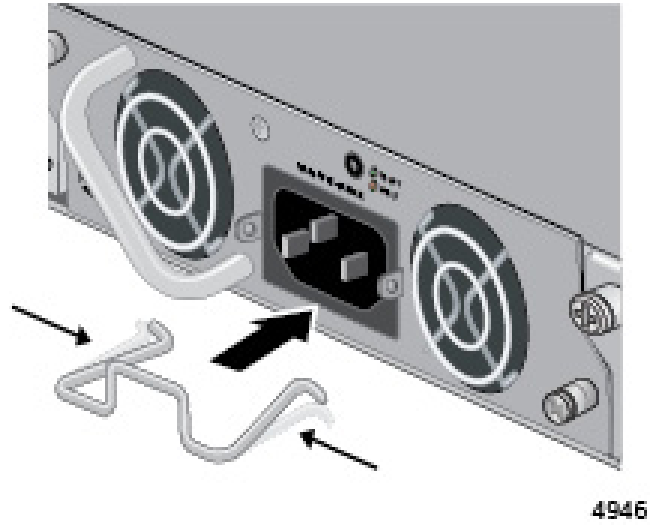

Figure 11. Installing the Power Cord Retaining Clip
1. Install the power cord retaining clip on the AC power connector of the power supply on the rear panel of the switch. Refer to Figure 11 on page 93.